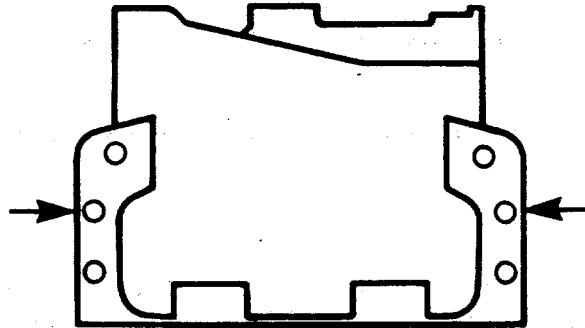

FIGURE 3-45. *Flywheel Housing Buttresses.*
- (1) Install and tighten the middle capscrew in each buttress on the flywheel housing (Figure 3-45).